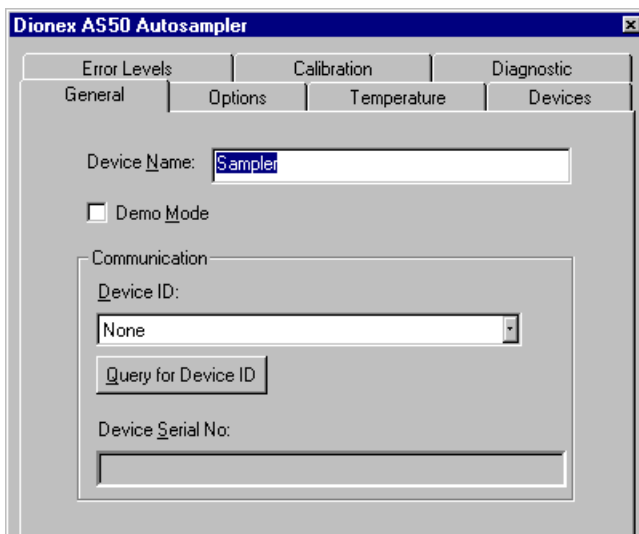

Figure B-19. AS50 Configuration Properties
- Click **OK**. A configuration properties dialog box for the device appears. Figure B-19 shows an example of the properties for an AS50 Autosampler.